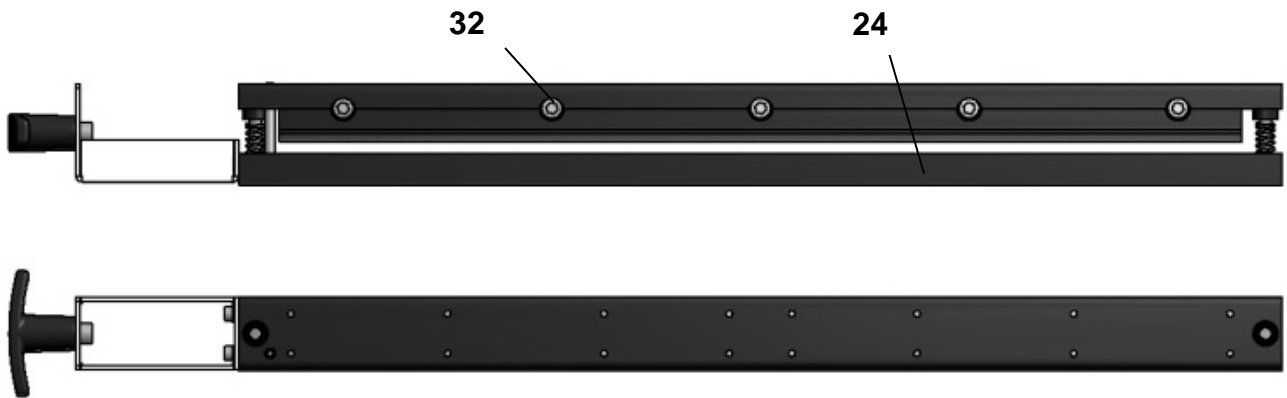
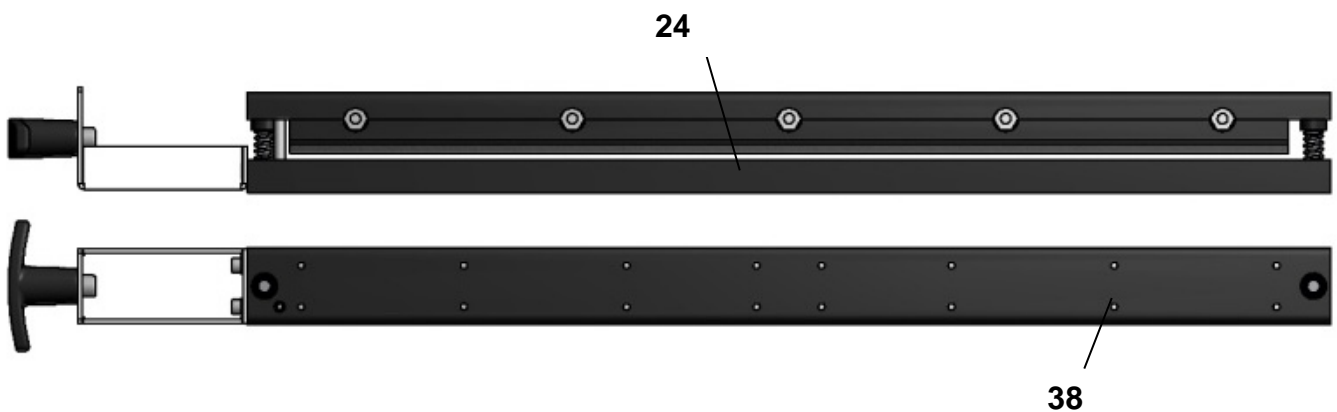

Fig. 3: Creasing tool CITO 1,0 mm (571 40 467) – standard equipment. Creasing tool CITO 1,4 mm (571 40 468) as optional accessory.
Fig. 4: Creasing tool – iron channel for higher grammage (570 40 466)
- 32 – Creasing tool screw M6x14 (fig. 3)
- 38 – Tool screw M4x5 (fig. 4)
By pressing ">>>" icon in Setting screen we enter to screen where most common types of fold are displayed (fig. 4). To achieve most common folds it is necessary to crease in certain distances like $\frac{1}{2}$, $\frac{1}{3}$ or $\frac{1}{4}$ of the paper. By pressing appropriate icon we can easily achieve one of the most-used folds. First, it is necessary to prepare the required sheet the same way as for the processing. Then press the " $\frac{1}{2}$ " icon (other fold types accordingly), followed by "Return" and "Start" icons. One sheet goes through the machine, its length is measured and $\frac{1}{2}$ of the length is calculated. The screen changes to the Setting screen (fig. 3). The calculated length of the $\frac{1}{2}$ is displayed in the "length" box. Then return to the main screen and press the "Start" icon. We recommend to process only one sheet and check the position of the $\frac{1}{2}$, whether the distance was measured correctly. If the crease is not in precisely in the required distance, return to the Setting screen and correct the distance manually. All other folds work the same way.